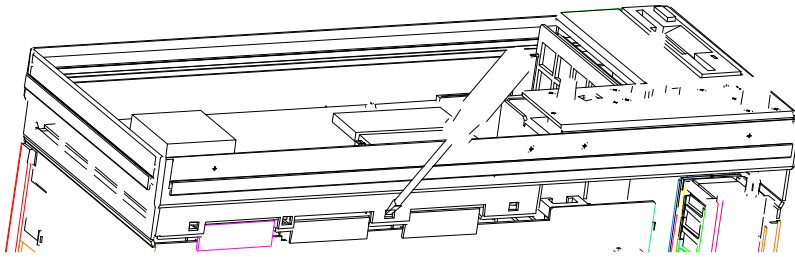

Fig. 3-1 Removing the front module controller Installing the new front module controller and putting the instrument back together.
- Remove the 10 semi screws (590) in the front module controller and remove the front module controller in the following way (see Fig. 3-1):